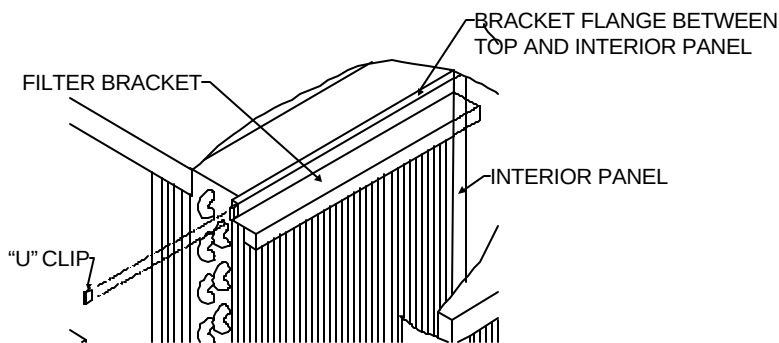

Figure 2
Install top filter bracket by (1) inserting the top filter bracket's top flange between the unit top and the interior panel. Push the "U" clip on the bracket and the coil as shown in Figure 2. For 2" inch filter remove filter spacer.